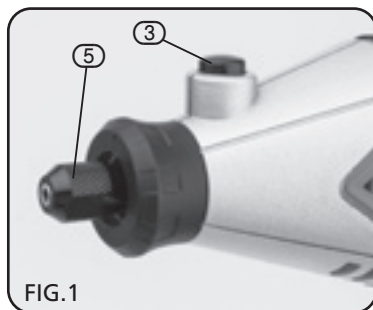

FIG.1
8.1 ACCESSORY INSTALLATION/ REPLACEMENT - FIG. 1